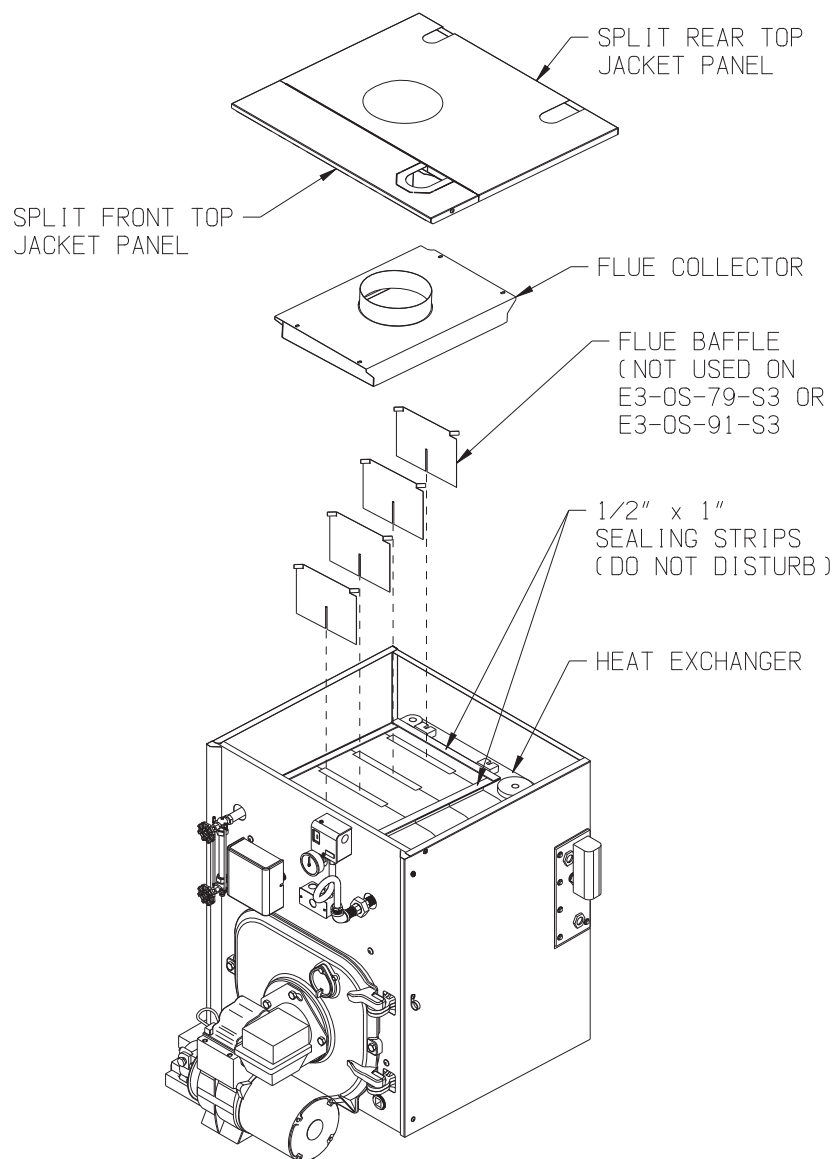

FIGURE 4.1: FIELD INSTALLATION OF FLUE BAFFLES
- c. Drop one baffle into each passage as shown in Figure 4.1